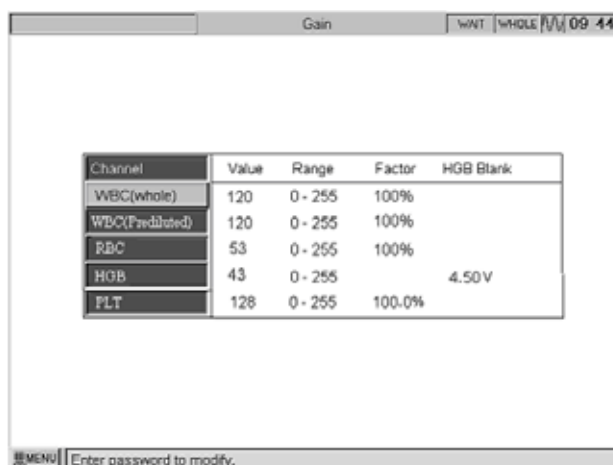

Figure 6-4
See figure 6-4, press [↑] [↓] to move the cursor onto “WBC (whole blood)” option, press [←] [→] to change its value. The greater the current value is, the larger the channel gain will be.
As shown in figure 6-4, press [↑] [↓] to move the cursor onto “RBC” option, press [←] [→] to modify the factor to make it the same as the calculated result of formula (1).
As shown in figure 6-4, press [↑] [↓] to move the cursor to “PLT” item, press [←] [→] to modify **the current value of PLT to make it the same as the current value of RBC.**
1. As shown in figure 6-4, press [↑][↓] to move the cursor to “HGB” item, press [←][→] to modify the background voltage value of HGB within the range of 4.3-4.5V.